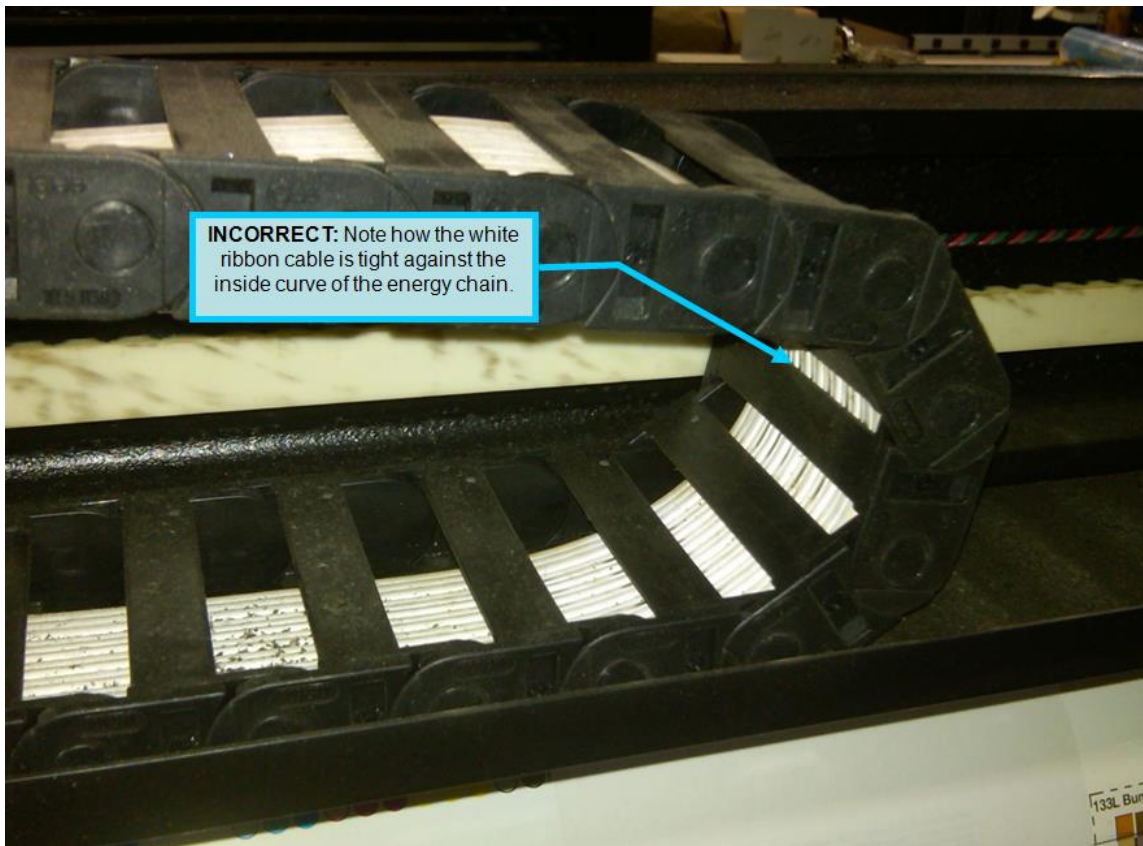

Fig. 56 – Incorrect Slack
15. Make sure that the white ribbon cable is not too loose or too tight within the energy chain. When the ribbon cable is lying in the energy chain, it should be able to move freely with the energy chain without binding up. If the ribbon cable is too close to the inside curve of the energy chain, this can cause the energy chain to buckle when the PH is moving back and forth. This can lead to premature cable wear and possibly positional errors of the PH while scanning. See Fig. 56 and 57 for incorrect and correct slack in the white ribbon cable.